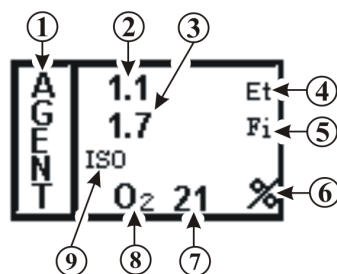

Figure 4-18. The AGENT Display
4.7.2 Associated Displays. (See Figure 4-18) Anesthetic Agent information can only be displayed as numeric data. Agent data is displayed in Box 7. The following is a description of the items contained within the Anesthetic Agent Display.